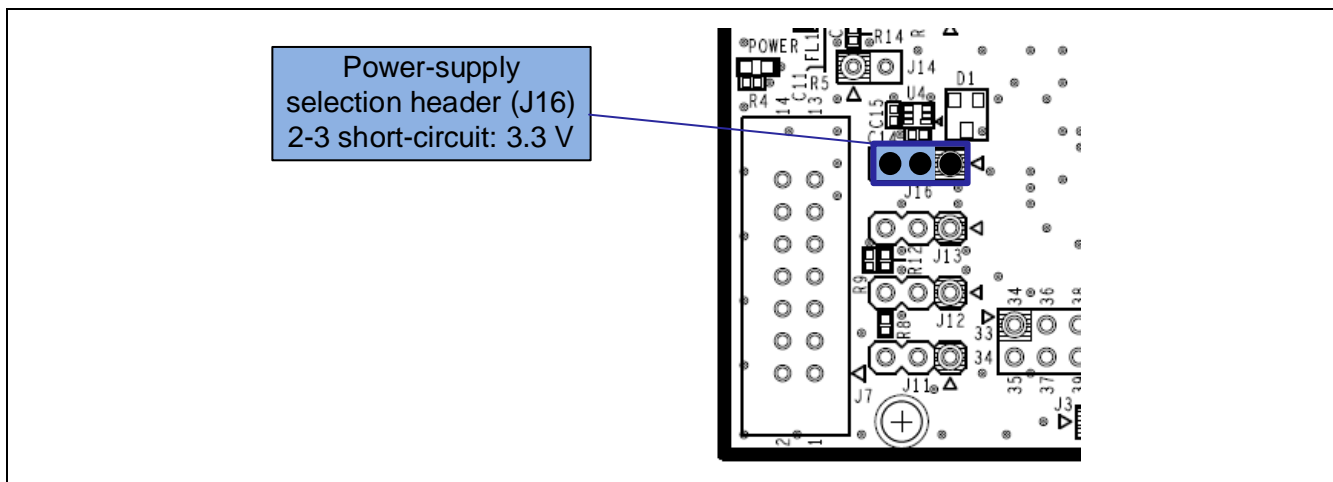

Figure 5-6 Setting of the Header to Select a 3.3-V Power Supply (Top Side)
- 2-3 of J16 being short-circuit selects a 3.3-V power supply (Figure 5-6).